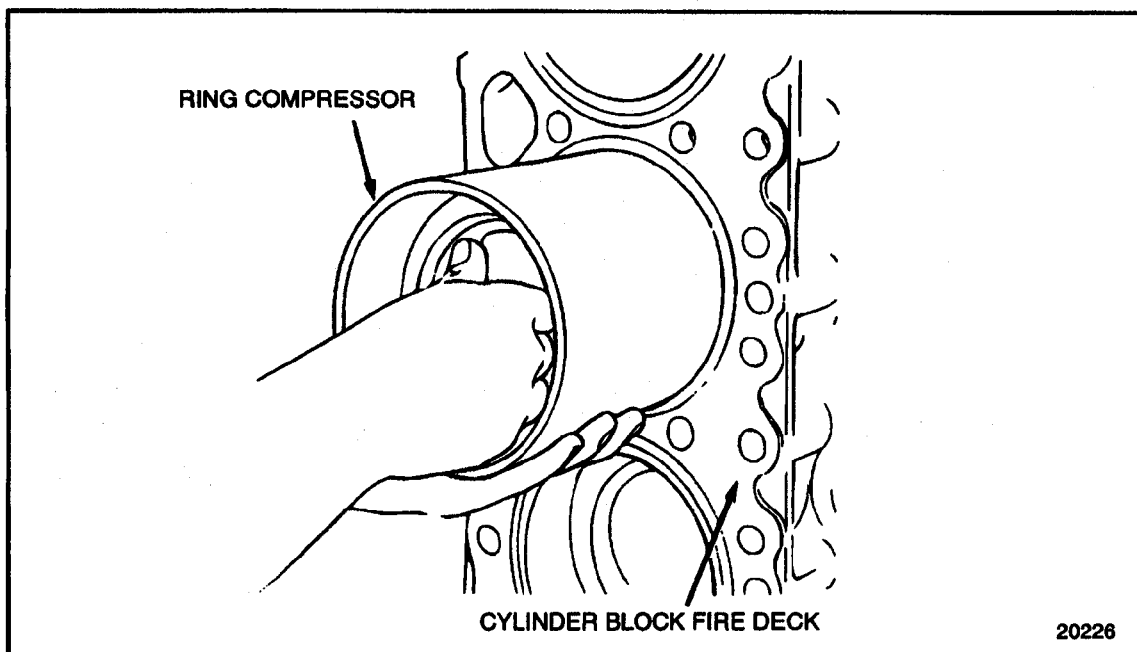

Figure 1-269 Use of Ring Compressor
15. Position the ring compressor, with piston and connecting rod inside, into the proper cylinder until the ring compressor is resting squarely on the cylinder liner. See Figure 1-269.